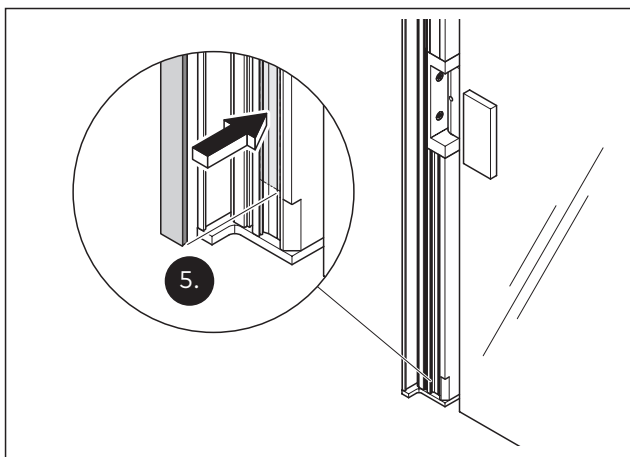

Fig. 10 Insert the shortened sealing element into the prepared cover profile for the door frame under the door hinge
5. Insert the shortened seal in the prepared cover profile flush with the door hinge (Fig. 10).